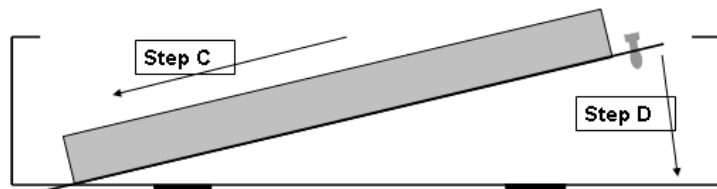

Figure 2
- B. Align two stationary tabs on the module with slots on the back of the enclosure (see Figure 2).
- C. Insert tabs by angling module away from the back of the enclosure and sliding forward (see Figure 2).
- D. Rotate the module and insert the built in locking tabs on the module into the corresponding holes on the back of the enclosure, pushing in until they snaps into place (see Figure 2).